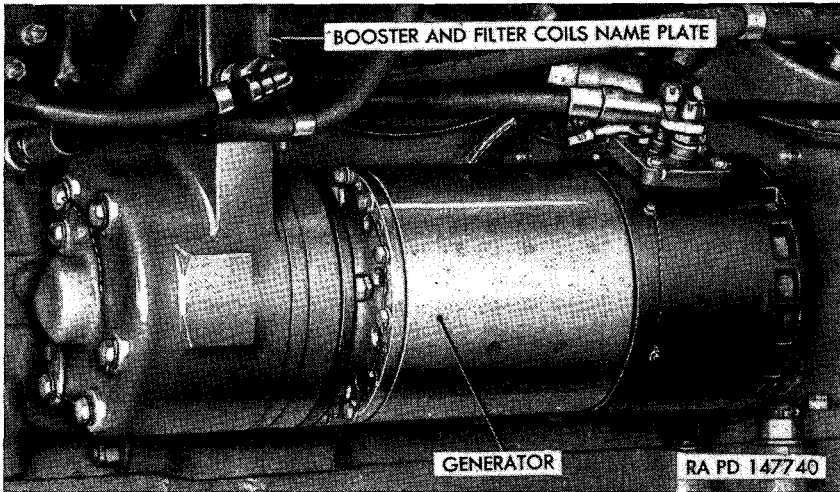

Figure 206. Generator installed on main engine.
- (1) *System.* The batteries and generating system (figs. 204 and 205) consist of two sets of batteries, each containing two batteries; a main and an auxiliary generator circuit each including a 150-ampere, 24-volt generator with voltage and current regulators and excessive-reverse-current warning signal light; and necessary control and wiring circuits. The main generator is mounted on the right side of the accessory case (fig. 206) and is gear-driven by the engine. The auxiliary generator is mounted on the lower-left side of the auxiliary engine (fig. 308) and is gear-driven by the auxiliary engine.
- (2) *Generators* (figs. 206 and 308). Both main and auxiliary generators are 150-ampere, 24-volt, 4-pole, 4-brush, field-regulated units utilizing interpole and compensating windings. Each generator consists of five basic components: armature, commutator, fan and slip clutch, yoke and field coil, and terminal board. Positive, negative, field-circuit, and equalizing circuit cables terminate at a terminal board mounted on the fan end of the generator.
- (3) *Generator regulating units*.
a. REMOVAL OF GENERATOR. Remove top deck (par. 158). Remove power plant (par. 159). Remove two cotter pins, nuts, and lock washers securing four cables and ground strap to generator terminal posts (fig. 206) and remove cables and ground strap. Remove locking wire
from five mounting bolts (fig. 206) securing generator mounting plate to accessory case. Support generator and remove the five bolts and washers. Pull generator straight out until driving spline is clear.